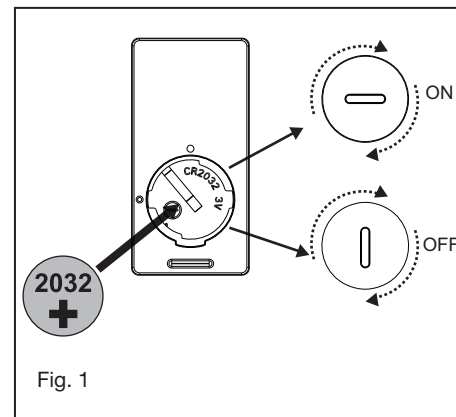

Fig. 1
1. Insert the receiver into the ceiling mounting bracket with the flat side of the receiver facing the ceiling. (Fig. 1) For best performance, make sure the Black Antenna and WIFI Antenna, on the end of the receiver, remains extended and not tangled with any of the electrical wires.
- 1 Select a desired location. Use the wall plate to mark the location of the mounting holes. Plastic wall anchors or mounting screws are needed for this application. (Fig. 1)
Remove the panel from the transmitter and then install one 2032 battery (included). You need to use a coin to open or close the battery cover. To prevent damage to transmitter, remove the battery if not use for long periods of time (Fig. 1)